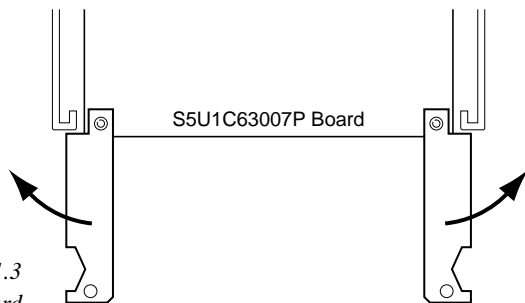

Fig. 2.1.3
- (1) Unfasten the screws located on the left and right sides of the front panel of the ICE by turning them counterclockwise, then remove the front panel.
- (2) Insert the S5U1C63007P board into the ICE along its uppermost guide rails until the tip of the board touches the back of the ICE. If some other board is mounted on the uppermost guide rails, remove that board by using the jig supplied with the ICE before you insert the S5U1C63007P board (see Figure 2.1.3).